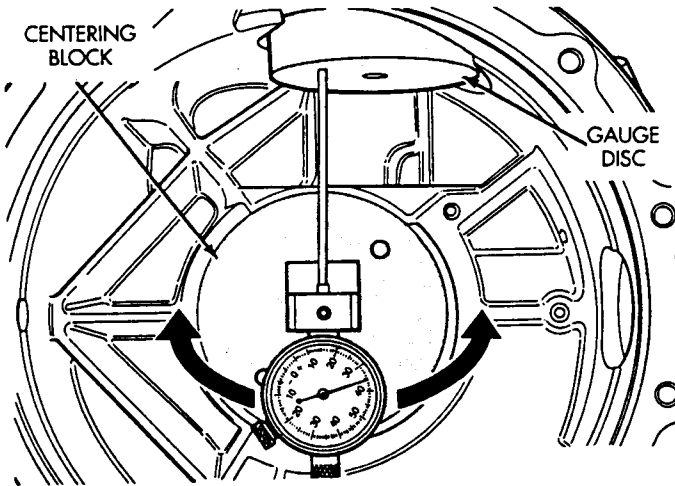

Fig. 11 Pivot Dial Indicator
(11) Pivot dial indicator back and forth (Fig. 11) on centering pin to obtain the shortest distance measurement. This will be the highest number reading on dial indicator. Record the number obtained.